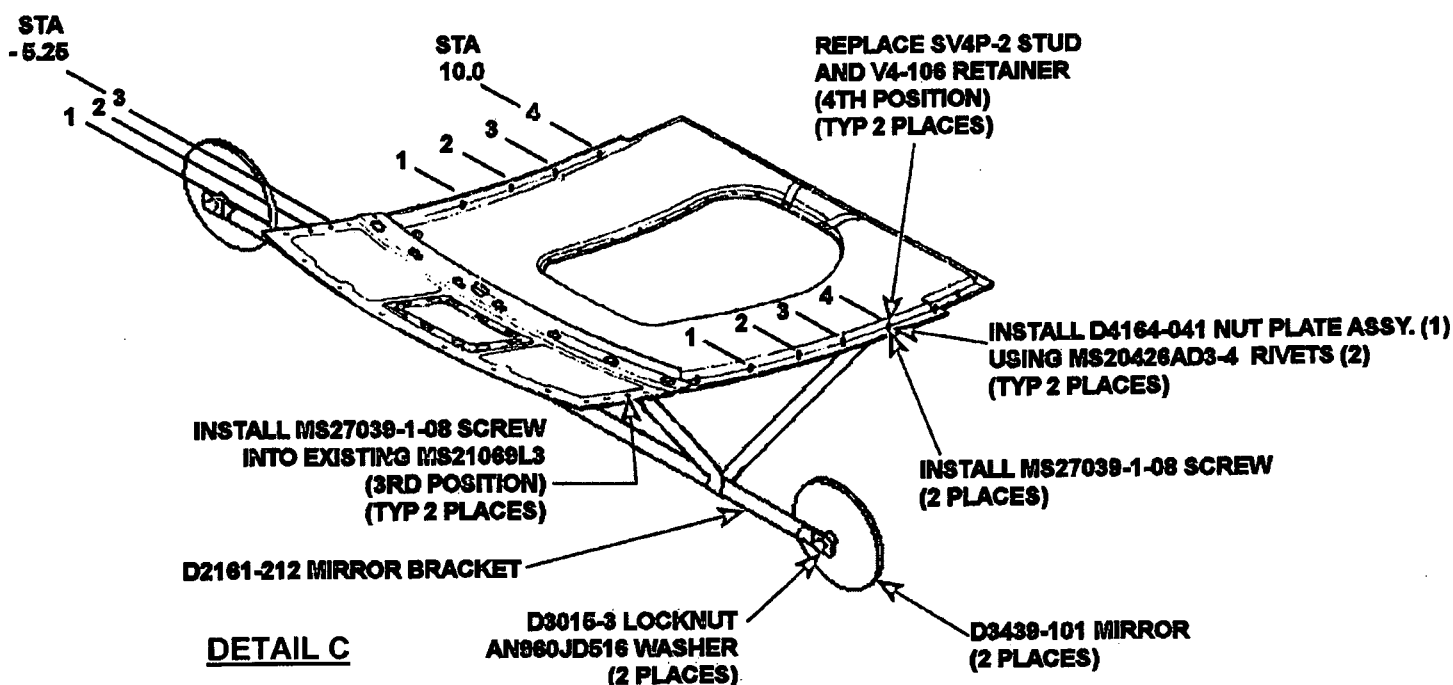
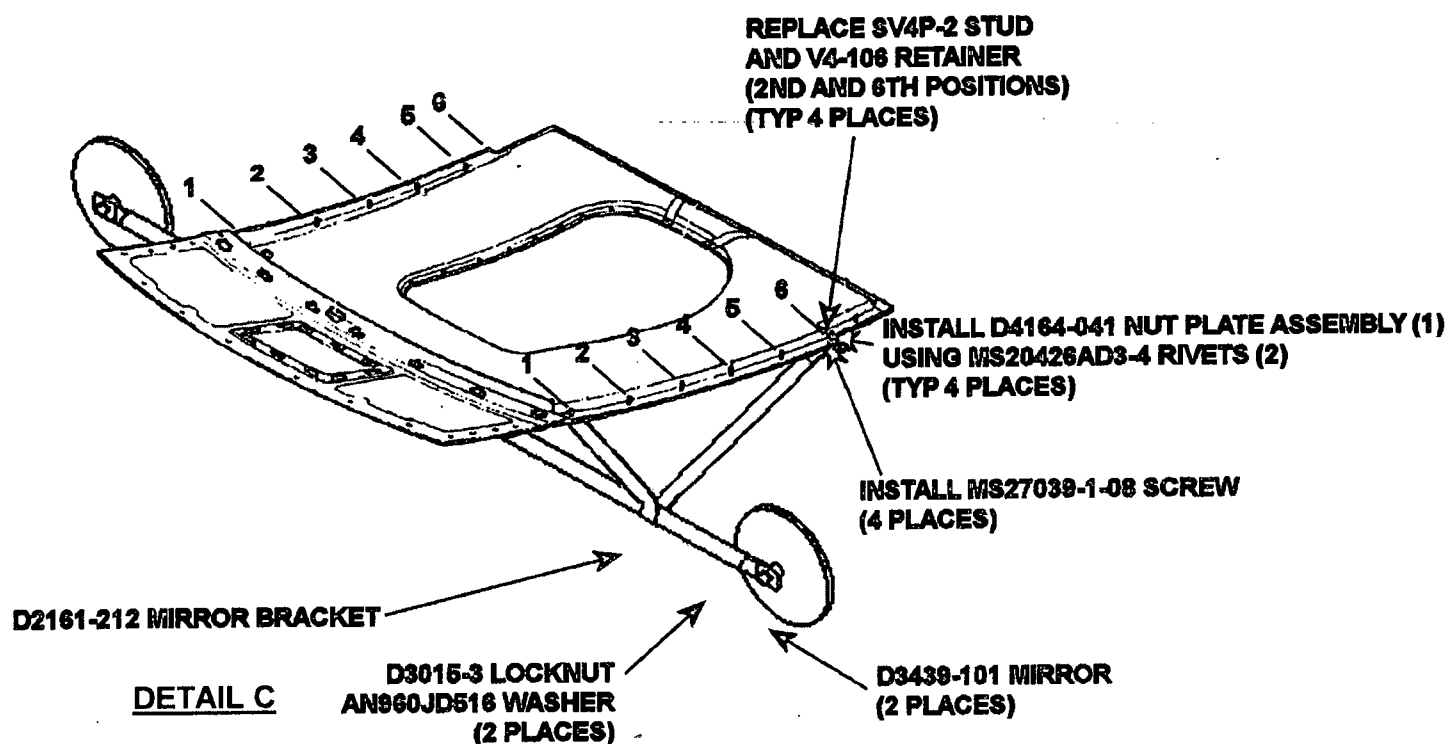

Figure 2-3: D212-580-041 DUAL MIRROR INSTALLATION (OPTION 1)
Figure 2-4: D212-580-041 DUAL MIRROR INSTALLATION (OPTION 2)
(Refer to Figure 2-3, for better viewing, install per Figure 2-4)
- 2.3.1 If installing per Figure 2-3, locate the 4th stud positions (STA 10.0) on both sides of the forward nose panel as shown in Figure 2-3. Remove the SV4P-2 stud (or equivalent) and V4-106 retainer (or equivalent) as shown in Figure 2-3 (2 places). Install the D4164-041 Nut Plate Assembly using MS20426AD3-4 Rivets as shown in Figure 2-3 (2 places).
- 2.3.2 If installing per Figure 2-4, locate the 2nd and 6th stud positions on both sides of the bottom nose panel as shown in Figure 2-4. Remove the SV4P-2 stud (or equivalent) and V4-106 retainer (or equivalent) as shown in Figure 2-4 (4 places). Install the D4164-041 Nut Plate Assembly using MS20426AD3-4 rivets (2) as shown in Figure 2-4 (4 places).
- a) Align the D2161-212 Mirror Bracket as shown in Figure 2-3 / Figure 2-4.
- b) Install the D2161-212 Mirror Bracket using MS27039-1-08 screws as shown in Figure 2-3 / Figure 2-4.
- 2.3.4 Install the D3439-101 Mirrors onto the D2161-212 Mirror Bracket using D3015-3 Locknuts and AN960JD516 washers as shown in Figure 2-3/Figure 2-4 (2 places). Torque the nuts per Table 1-2.